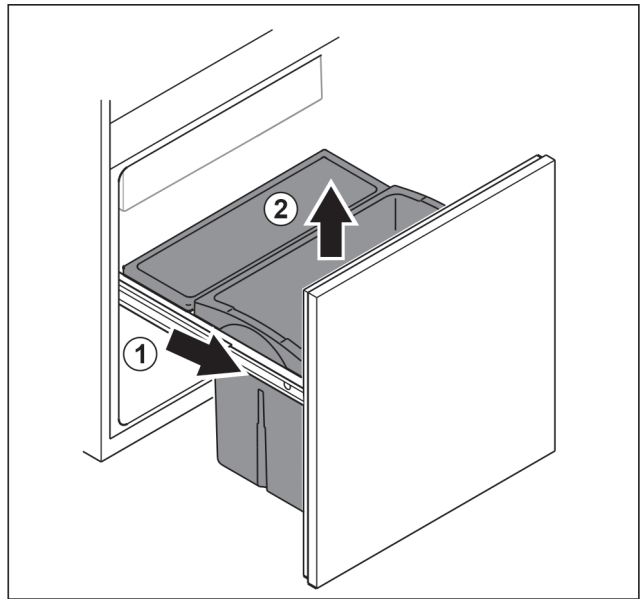

Fig. 98
- ▶ Remove the pull-out unit as far as it will go. Fig. 98 (1)
- ▶ Remove drawer upwards. Fig. 98 (2)